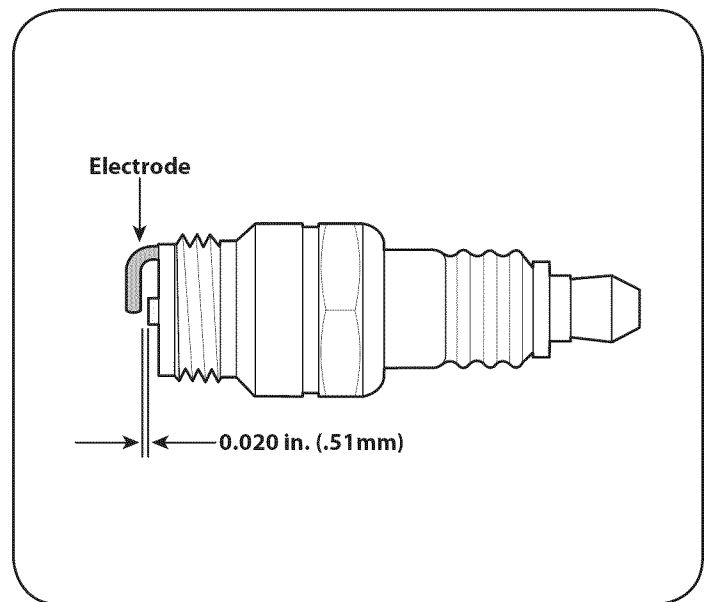

Figure 20
3. Check the gap with a wire gauge. See Figure 20. Spark plug gap should be 0.020 in (0.51 mm). If necessary, reset the gap.